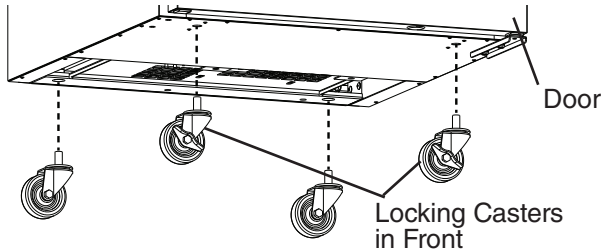

Fig. 1
3) Attach the casters to the bottom of the appliance. Locking casters should be attached to the front of the appliance. See Fig. 1.